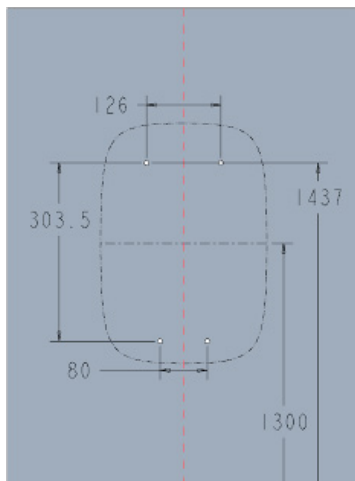

Figure A-4 Wall mounting height
2. As shown in Figure A-4, the center distance of the wall drilling hole, place the punching template at a suitable height, and mark the punching position on the wall with a pencil.